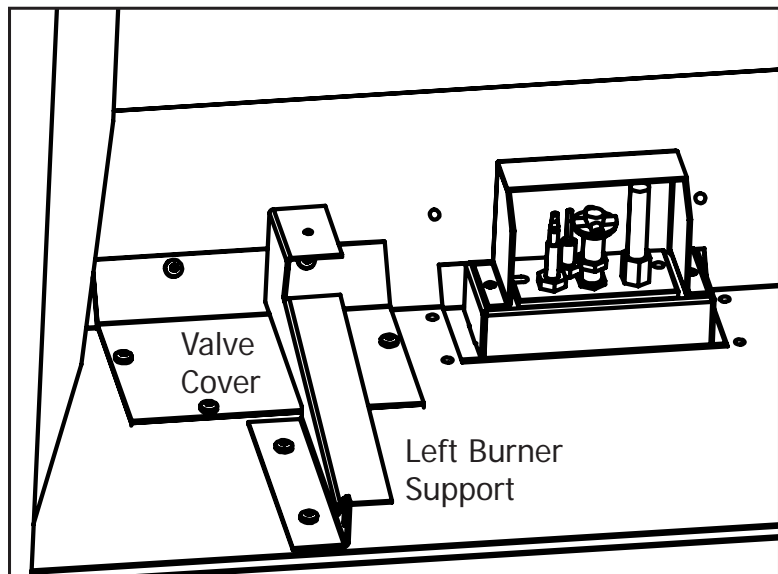

Figure 9: Valve Cover and Burner Support.
5. Then remove the six screws that hold the valve cover in place (pointed out in Figure 9).